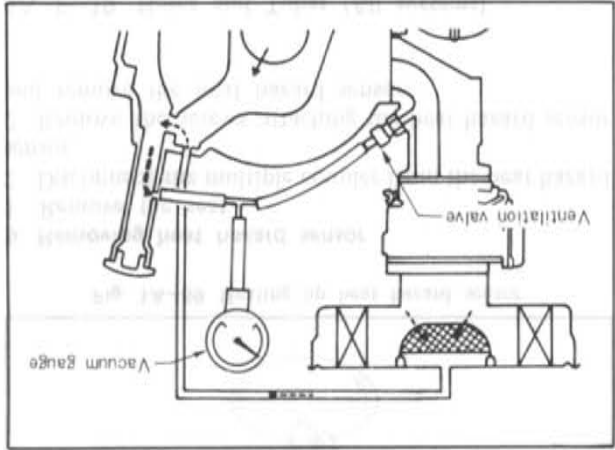

Fig. 1A-65 Checking charcoal canister
3. Attach a vacuum gauge as shown in Fig. 1A-66.